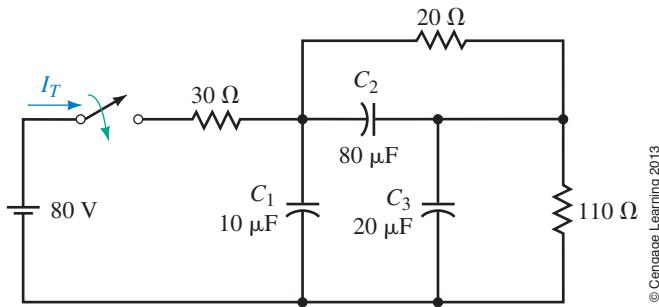

FIGURE 11-60
53. For the circuit of Figure 11-60, use PSpice to determine and plot voltage and current waveforms for capacitors C_1 and C_3 , then from the waveforms, determine their steady state voltages and currents. Compare to the answers of Problem 35.